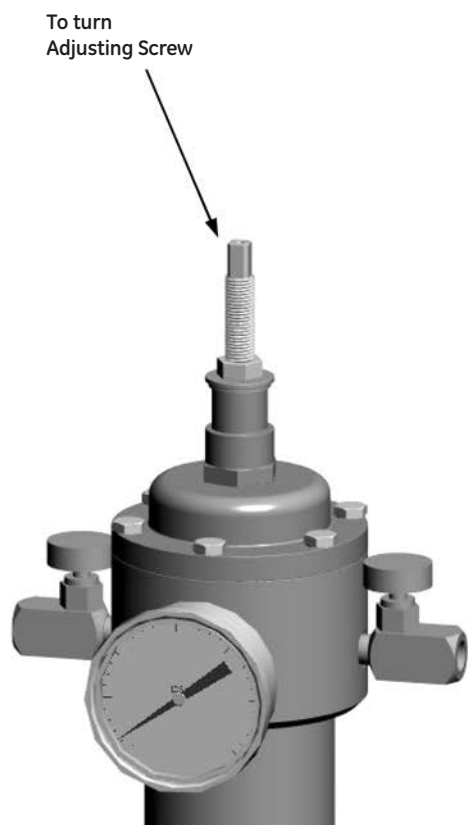

Figure 4 - Adjusting Screw
Step 4: Turn the adjusting screw counterclockwise until the control spring is fully unloaded. You will feel the screw becoming much easier to turn. (Refer to Figure 4)